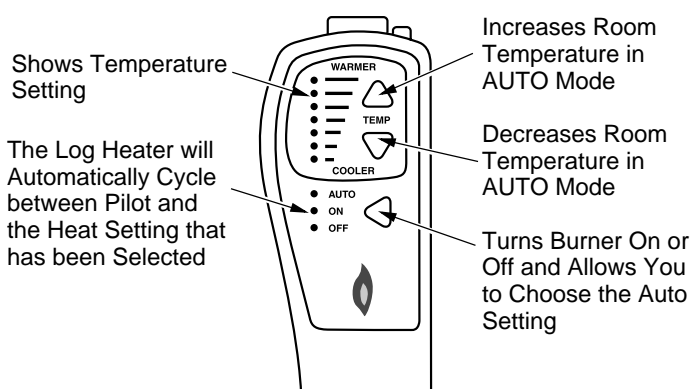

Figure 42 - Thermostat Hand-Held Remote Control Unit Selections (GHRCTA Series Only)
- 2b. Press the AUTO/ON/OFF button on the hand-held remote control (see Figure 42). The lights to the left of the button will show AUTO, ON, or OFF.